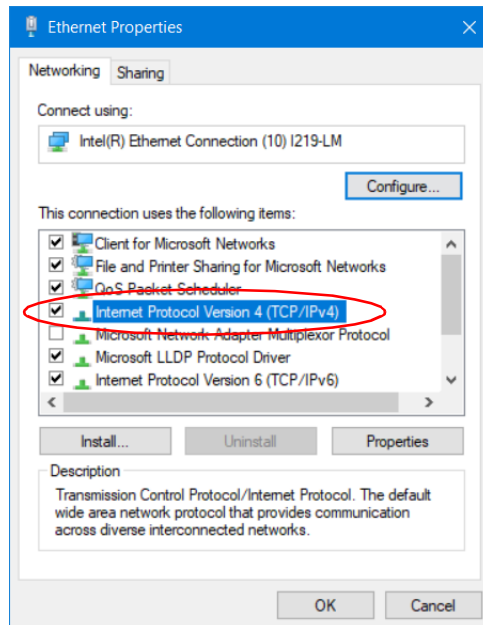

Figure B-4 Ethernet Properties Window
STEP 5: In the *Ethernet Properties* window, verify the *Networking* tab is selected, and double-click **Internet Protocol Version 4 (TCP/IPv4)** (Figure B-4).